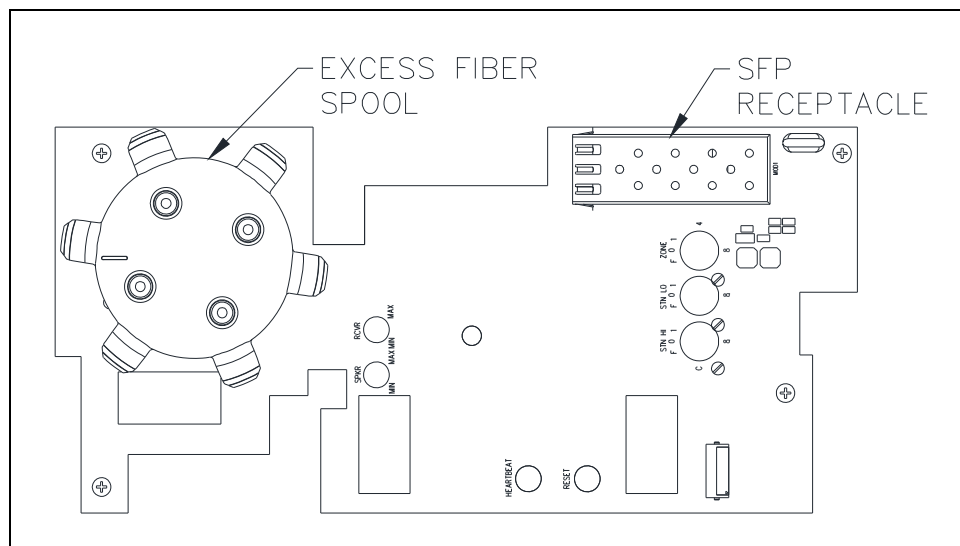
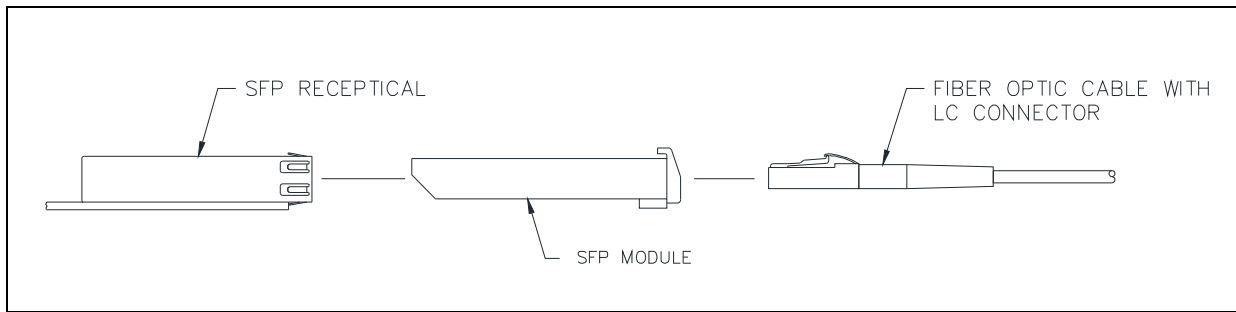

Figure 9. Fiber Termination PCBA
Figure 10. SFP Transceiver Insertion and Fiber Plug-in
The fiber termination PCBA (see Figure 9) is mounted on top of the main PCBA. Exact fiber termination is installation dependent because the fiber optic cable and SFP (Small Form-factor Pluggable) transceivers used in SP2 system installations are customer supplied. Here are the basic steps for terminating the fiber optic cable to the SP2 station:
1. Insert the SFP transceiver into the SFP receptacle (see Figure 9 and Figure 10).
4. Plug the fiber connector into the SFP (see Figure 10).